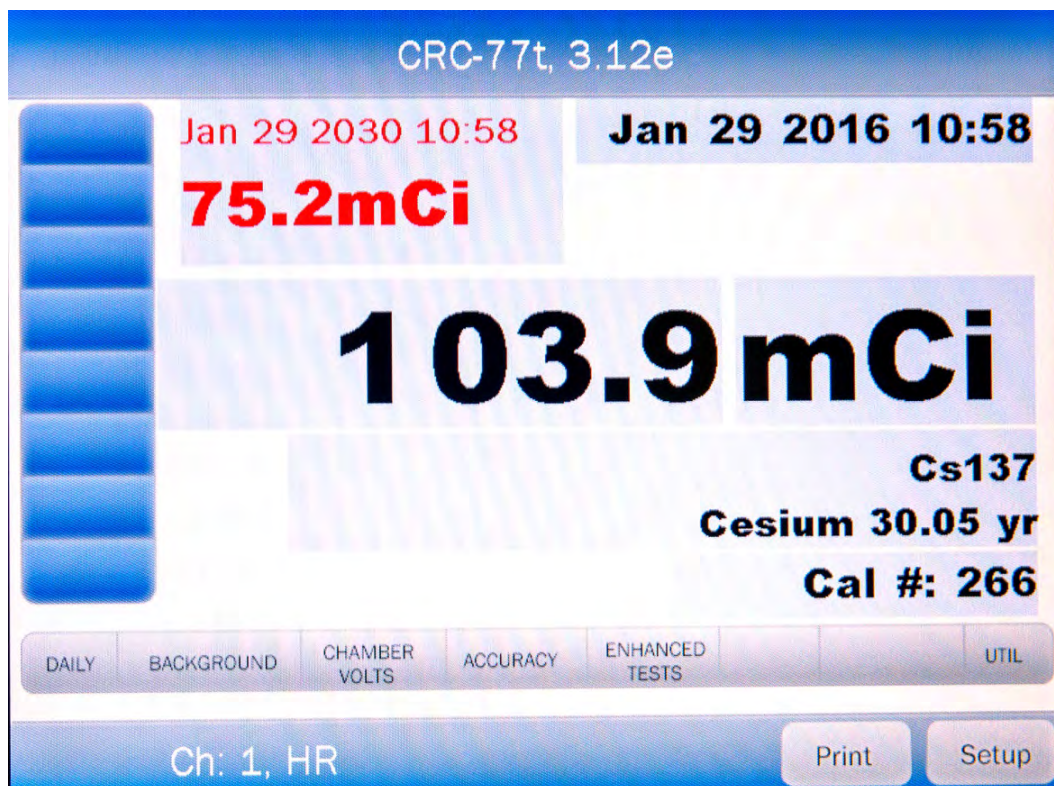

Figure 10-7 Measurement Screen with Dose Decay
6. Touch the **ACCEPT** button to accept the set date and time. Figure 10-7 Measurement Screen with Dose Decay will appear with the Dose Decay button populated with the calculated future activity at the specified date and time.